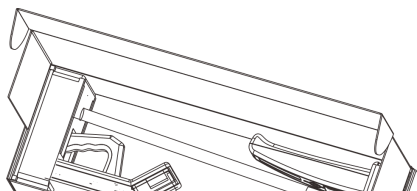

Fig2
1) Open the packing box(See Fig.2)